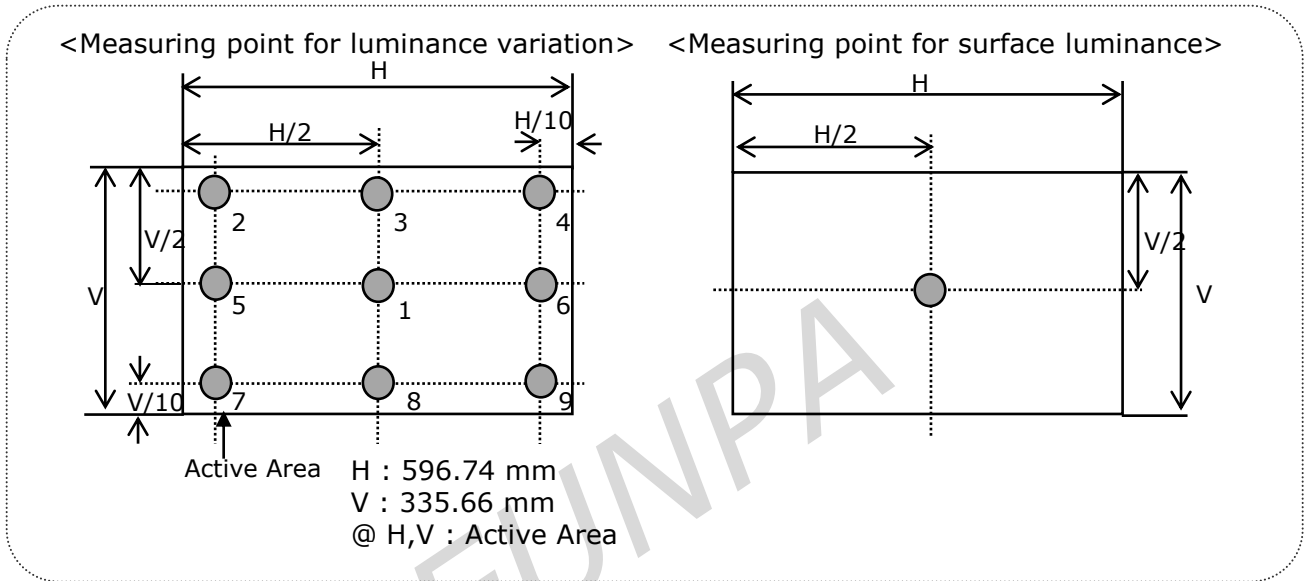

FIG. 5 Measure Point for Luminance
2. Surface luminance(L_{WH}) is luminance value at 1 point across the LCD surface 50cm from the surface with all pixels displaying white. For more information see FIG 5.
Where L1 to L9 are the luminance with all pixels displaying white at 9 locations. For more information see FIG 5.